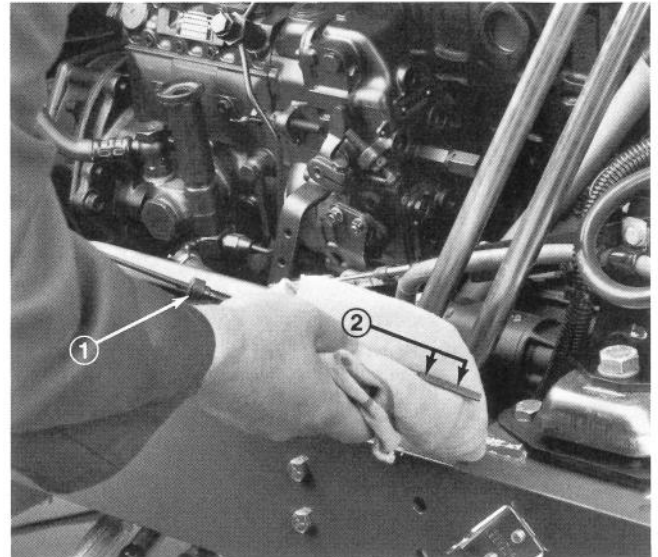
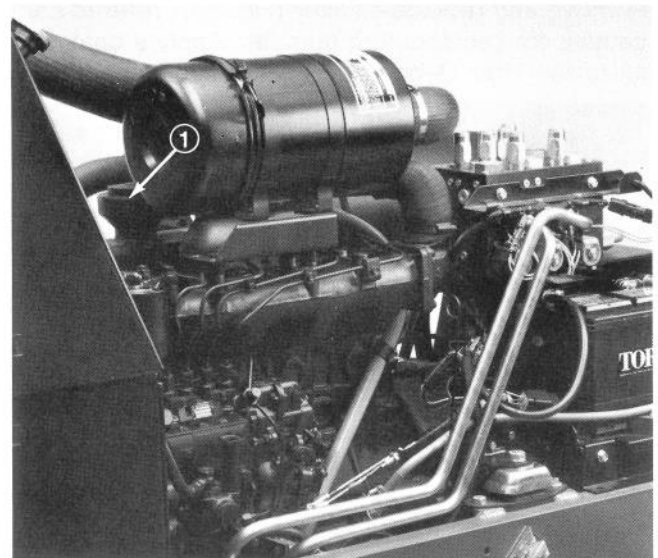

Figure 30
Figure 31
2. Remove dipstick, wipe with clean rag (Fig. 30) and fully re-insert in tube. Remove from tube and check oil level. Level should be between the marks on the dipstick. If level is low, remove filler cap (Fig. 31). Add oil until level is to top mark on dipstick (Fig. 30). **DO NOT OVERFILL.**